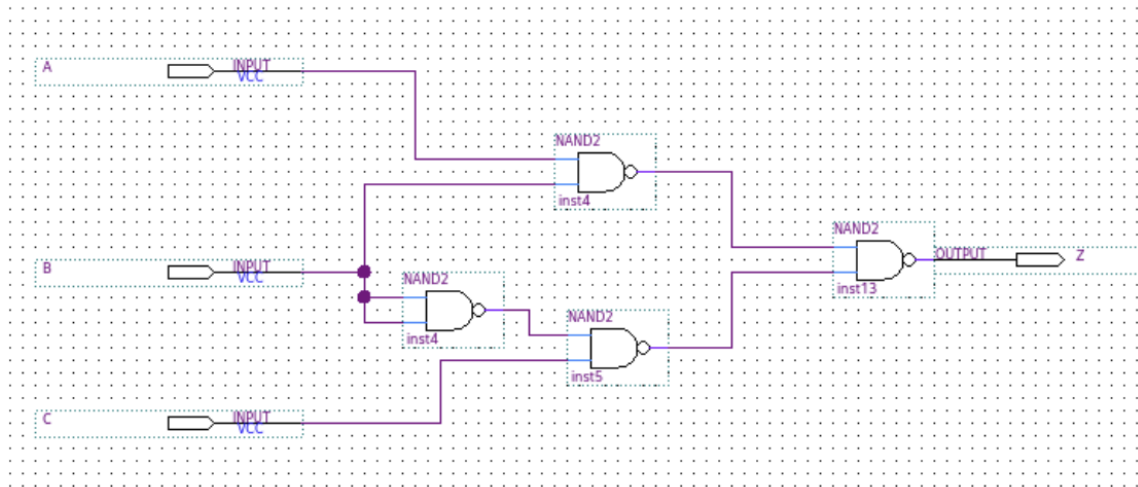
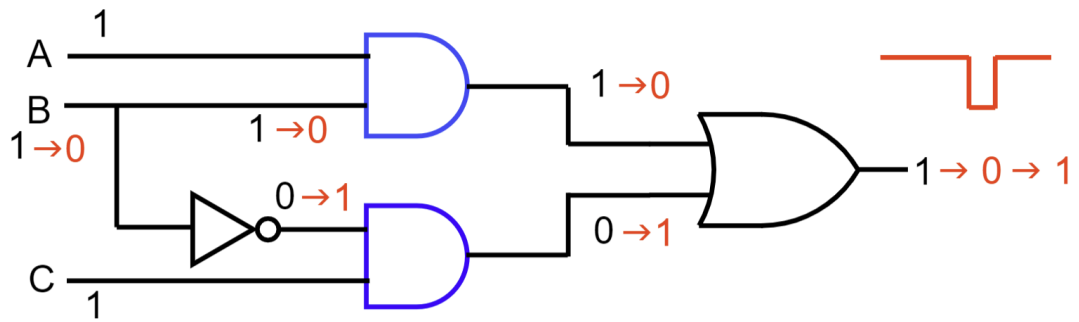

Figure 4 - Circuit Diagram in NAND Gates
Figure 5 - Static Hazards – Example with 2 to 1 MUX
To further simplify the circuit on the breadboard, we can convert all the gates to NAND gates based on De Morgan's Law and practical implementation of chips. In this way, we can simply use a single NAND chip to implement the circuit shown in Figure 4.
- 2) For Part B in the Prelab, we discover that there is a problem with the circuit in Part A. Due to the additional NAND gate as an inverter in the bottom half circuit in Figure 4, there will be a propagation delay which may lead to the occurrence of glitches in a signal. A glitch is a momentary incorrect output value produced by a circuit during periods when the inputs are changing. For example, when both inputs A and C are held high (1), we change selector B from 1 to 0. For a period, the output will be at logic 0 since the delay of the inverter leads to the temporarily unchanged 0 as input to the OR gate shown in Figure 5.